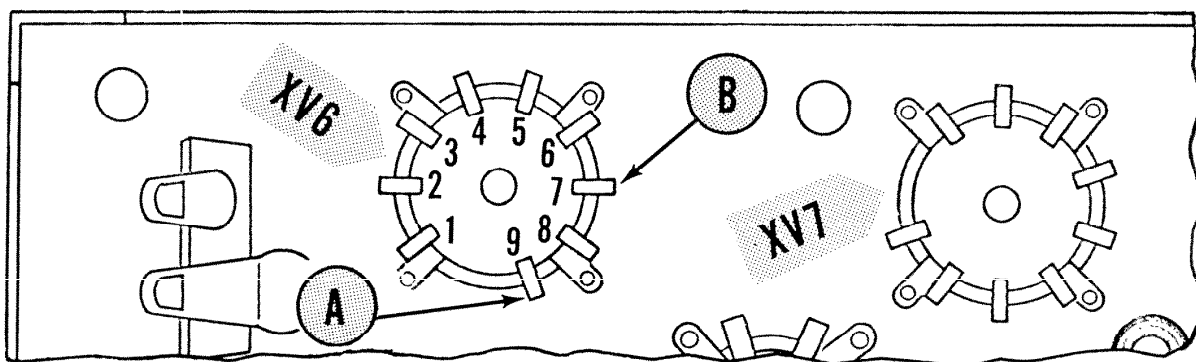
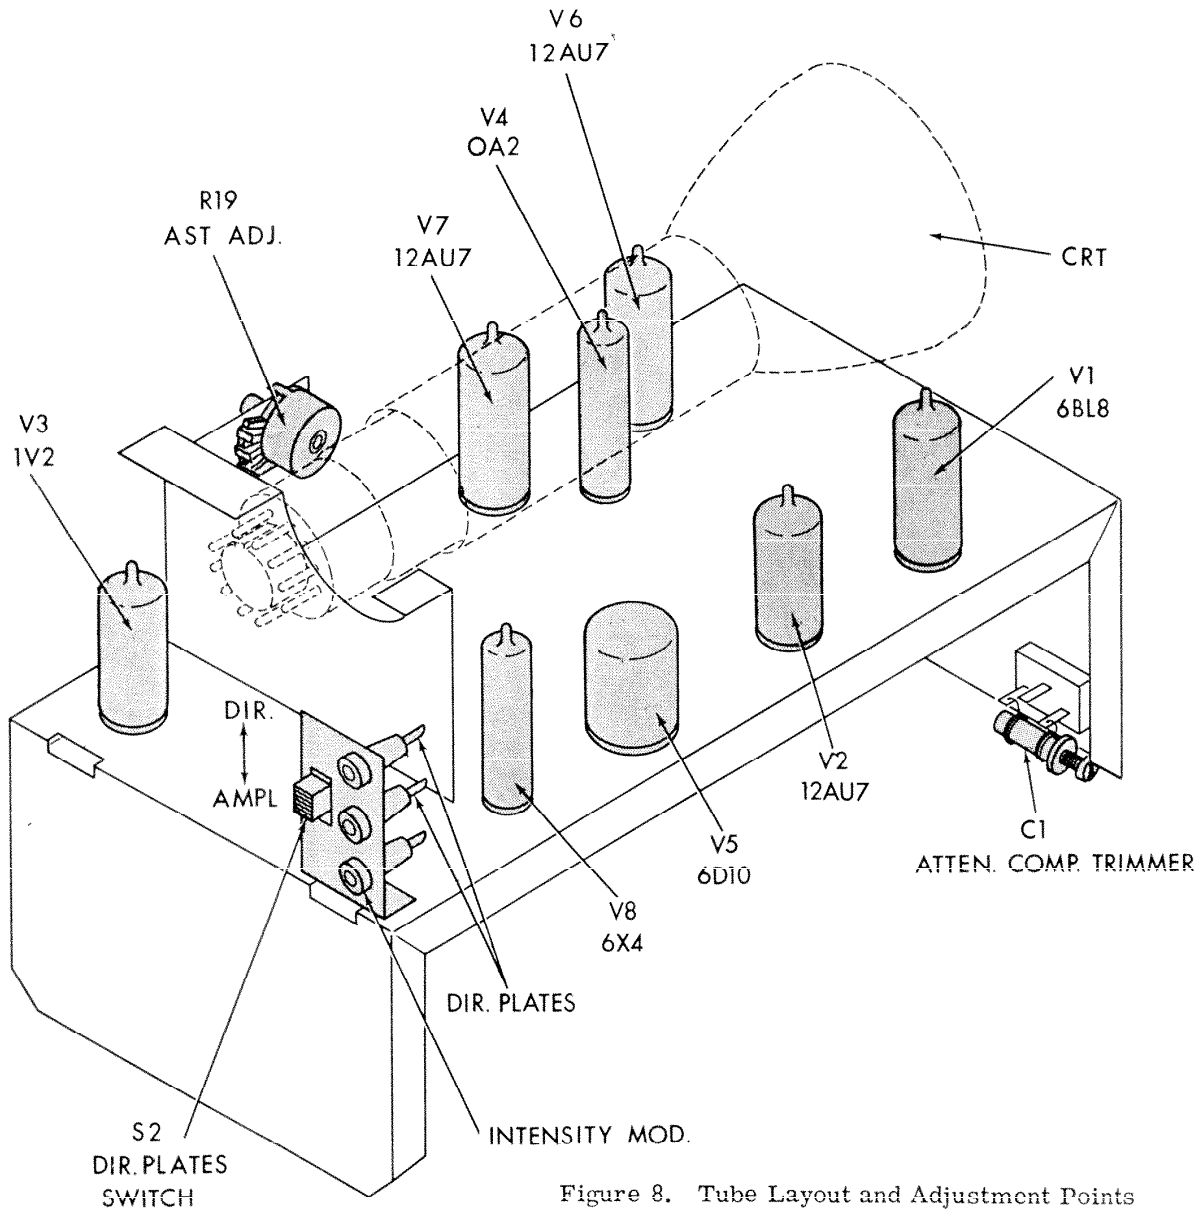

Figure 7. Jumper Points
Figure 8. Tube Layout and Adjustment Points
9. If a power or filament transformer is available, connect a 6 or 12V winding (or the like) to the VERT. INPUT and ground terminals, and the primary side to the power line (NOTE: if necessary, the required 60 cps sinewave voltage may be obtained by removing the instrument from the cabinet, and connecting a jumper from point A on the chassis (see Fig. 7) to the VERT. INPUT terminal. Take care to avoid contact with exposed and dangerous high voltage points. Set the SYNC SELECTOR at INT., the VERT. ATTENUATOR at HI, the SWEEP RANGE switch at 10-100, the SWEEP VERN. control at MIN. Now adjust the VERT. GAIN and HOR. GAIN controls until the pattern extends about two-thirds the width and the height of the cathode-ray tube. The pattern will not be clear because of its rapid horizontal drift. Advance the setting of the SWEEP VERNIER gradually until a single sinewave of power line frequency appears and remains stationary on the screen.
Connect a jumper from point B on chassis (see Fig. 7) and the VERT. INPUT terminal. Set the SYNC SELECTOR to INT., the SWEEP RANGE switch at the 1K-10K position, and the SWEEP VERNIER at MIN. Now set the VERT. ATTENUATOR at HI, and then use the panel controls to obtain a centered, focused trace entirely on the screen. With the trimmer C1 adjusted improperly, the trace will appear either as in Fig. 9a or Fig. 9b. If this is the case, adjust C1 (see Fig. 8) until the hook disappears and the trace is a straight line as in Fig. 9c.
Tube location is shown in Fig. 7. Readjustment will be required when replacing V1. When the CRT is replaced, it must be rotated until the horizontal trace is level.